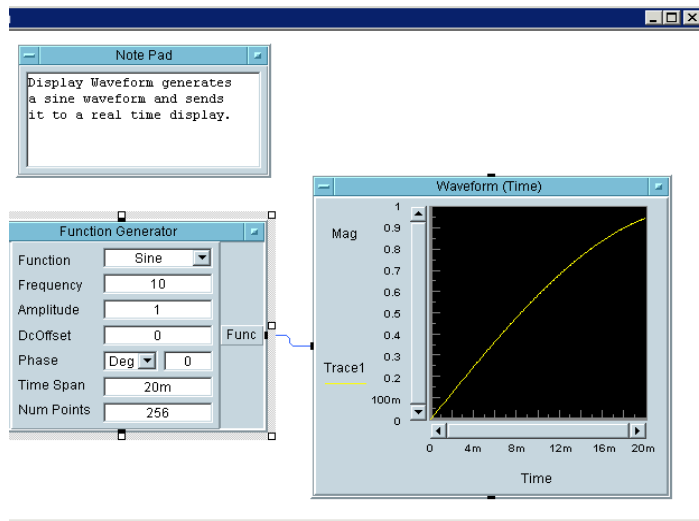

Figure 29 Example: Changing the Frequency Field to 10 Hz
- 8 Press Delete to delete the last 0, changing the Frequency value to 10. Run the program. It should look like Figure 29.